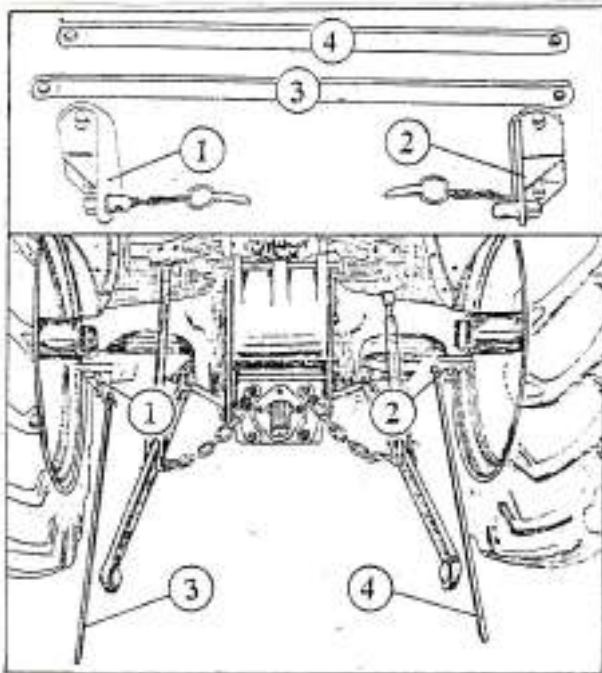
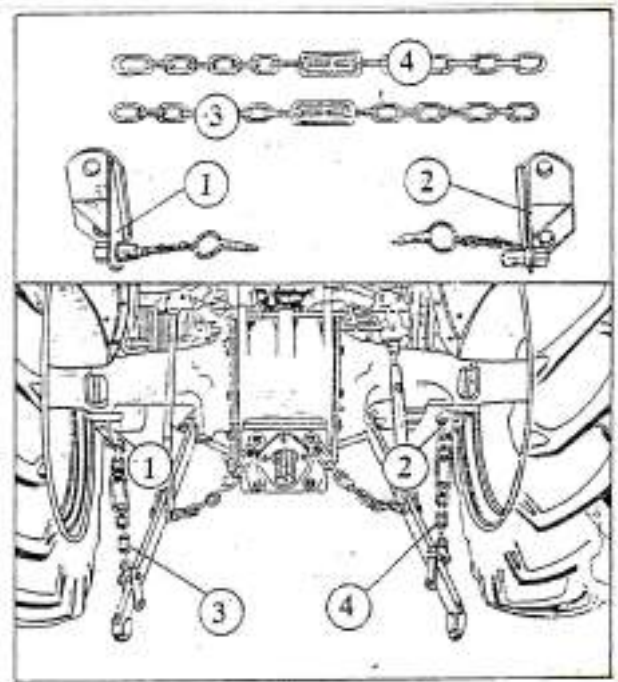

Figure 2. Installation of stabilizer bars
Figure 3. Installation of stabilizer chains
- a) 1. It is mandatory to use stabilizer bars (Figure 2) or stabilizer chains (Figure 3) when working with the shredder. The stabilizer bars are attached to the tractor as follows (see figure 2).
- b) Fasten the left stabilizer bar bracket (Fig. 2, Item 1) under the housing of the left rear axle, and the right one under the housing of the right rear axle of the tractor (Fig. 2, Item 2), by screwing.
2. If your tractor is equipped with stabilizer chains, the installation procedure is shown in Figure 3, the installation sequence is the same as for the installation of the stabilizer bars (see item 2).